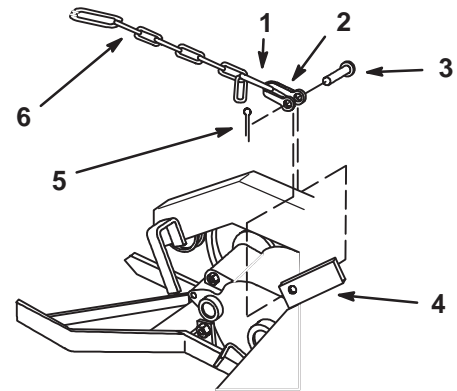

Figure 4
2. Attach lift chain, short link end and one link short, to lift bracket. Secure lift chain with clevis, clevis pin and a cotter pin (3/4 inch) (Fig. 4).